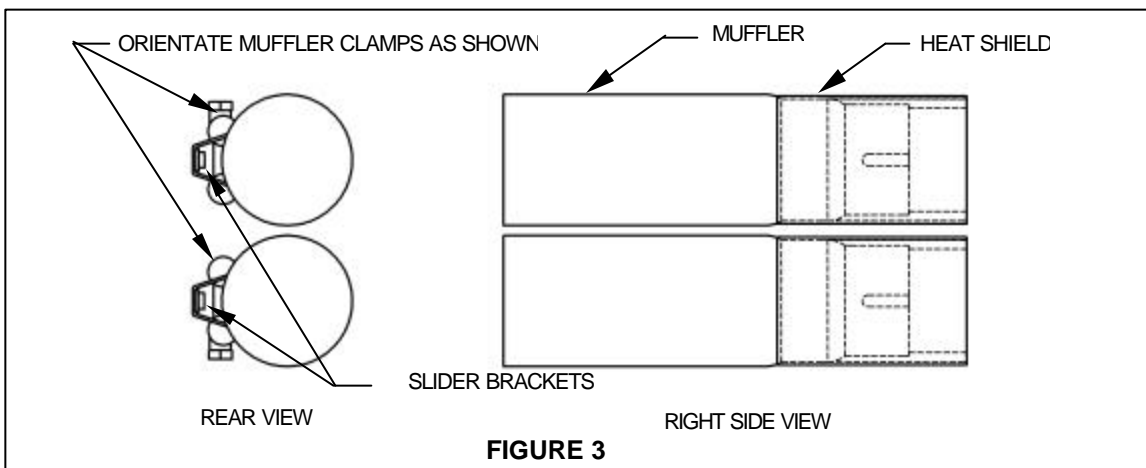

FIGURE 3
2. Remove mufflers from box and set them on a flat surface parallel with each other. Make sure the brackets are pointing up and the small ends of the mufflers are to your right. Locate the two slider brackets in the hardware kit. Place one slider bracket inside each muffler bracket with the flat side of the bracket pointing up (see figure 3)
5. Slide one supplied clamp #27-61MSC onto each muffler and position as shown in figure 3.
9. Place the heat shields onto the head pipes snapping the rear of the shield onto the muffler as show in Figure 3.